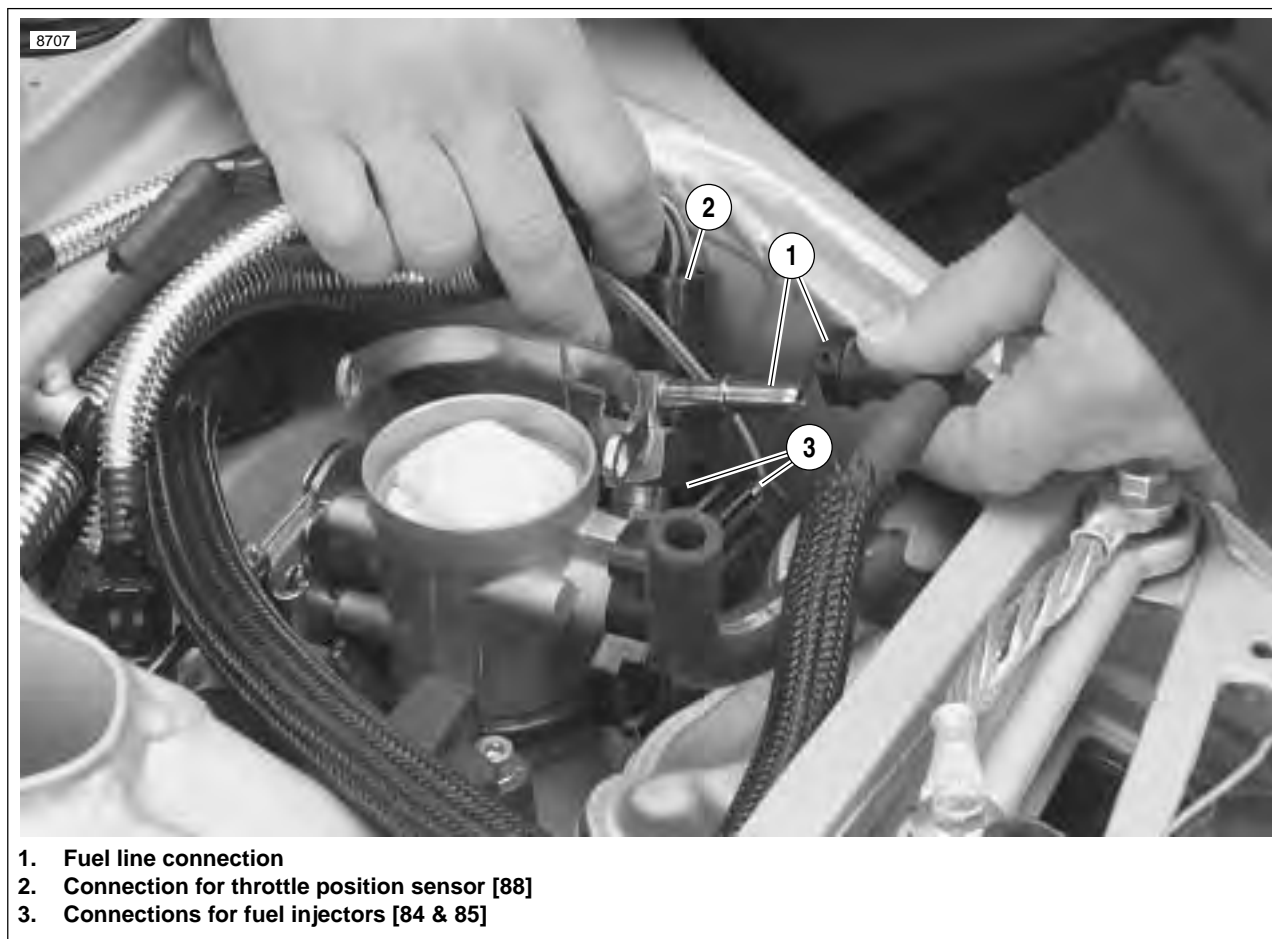

Figure 3-1. Fuel Line and DDFI Electrical Connections
5. See Figure 3-1. Disconnect fuel line.
6. Disconnect the throttle position sensor (2) [88].
7. Disconnect the fuel injector leads (3) [84 & 85].